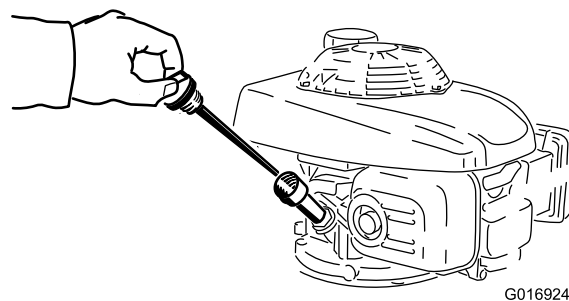

Figure 27
- Retirez la jauge (Figure 27).